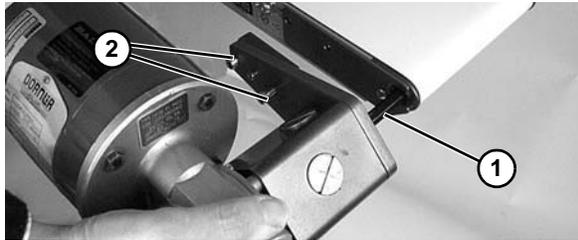

Figure 15
- Insert hex shaft (Figure 15, item 1) into drive pulley hex bushing and slide drive against conveyor. Install two (2) screws (Figure 15, item 2). Tighten to 80 in-lb (9 N-m).